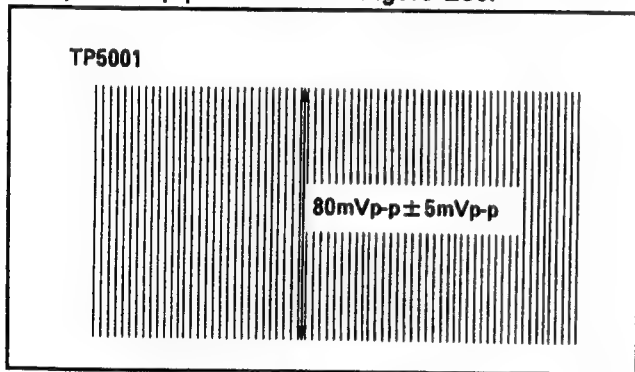

Figure E29
4. Adjust VR4503 so that the level becomes 80mVp-p \pm 5mVp-p as shown in Figure E29.